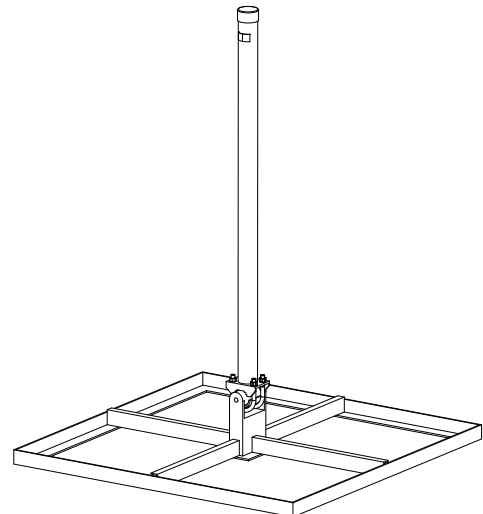

Fig. 5: Aligning the Mast Vertically
7. After the mast has been aligned vertically, tighten the nuts cross-wise with a torque of 55 Nm (Fig. 5).